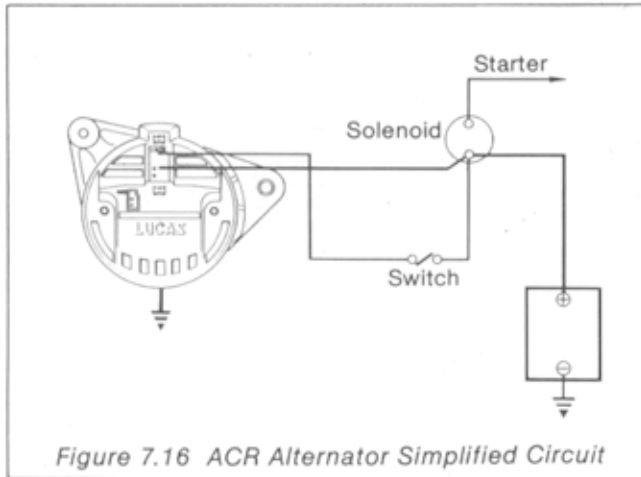

Figure 7.16 ACR Alternator Simplified Circuit
**7.34** Figure 7.16 shows the alternator (European Termination) connections. It consists of two large '+' Lucar connections and a small 'IND' connector. The negative connection is made through the alternator body. The two Lucar '+' connectors give a better mechanical grip for the socket, but there is only a single cable to the battery.